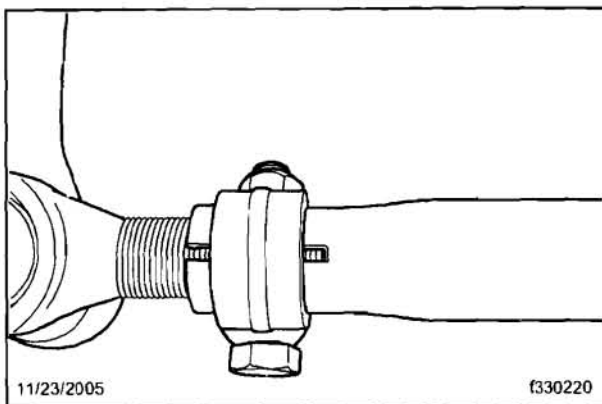
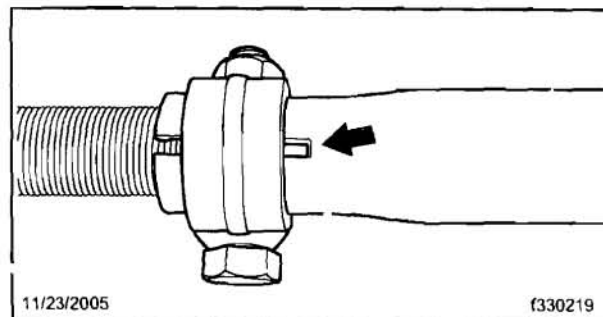

Fig. 1, Correct Tie Rod Thread Engagement
Fig. 2, Incorrect Tie Rod Thread Engagement
3. Inspect the tie rod for correct thread engagement. There must be threads showing the full length of the slot. See Fig. 1 and Fig. 2.